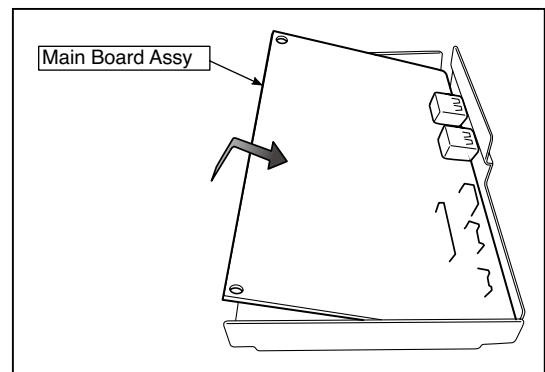

Fig.5
5. When replacing the Main Board Assy shown in the figure 5, insert the Main Board Assy from the oblique direction so that the parts mounted at the rear of the Main Board Assy are not damaged.